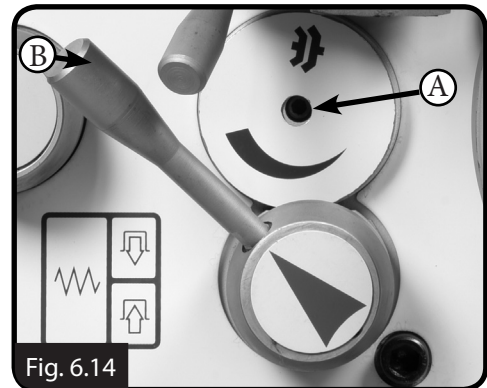

Fig. 6.14
1. With a hex wrench, turn the center cap screw ("A" in Fig. 6.14) clockwise to increase the clutch holding power, and turn counter clockwise to decrease the amount of clutch holding power.
3. Engage the power feed ("B" in Fig. 6.14) and hold the longitudinal feed handwheel with one hand. The clutch should release within a few seconds without much pressure of the handwheel rotation. This holding force is approximately 12 kgs.